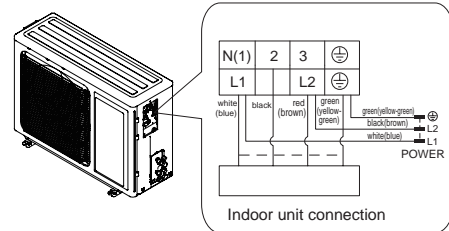

Fig.23
- (1) Let the connection wire sleeve go through the two holes of baffle; tighten the connection joint of sleeve and baffle; remove the wire clip; connect the power connection wire and power cord to the wiring terminal according to the color; fix them with screws.(As show in Fig.23)